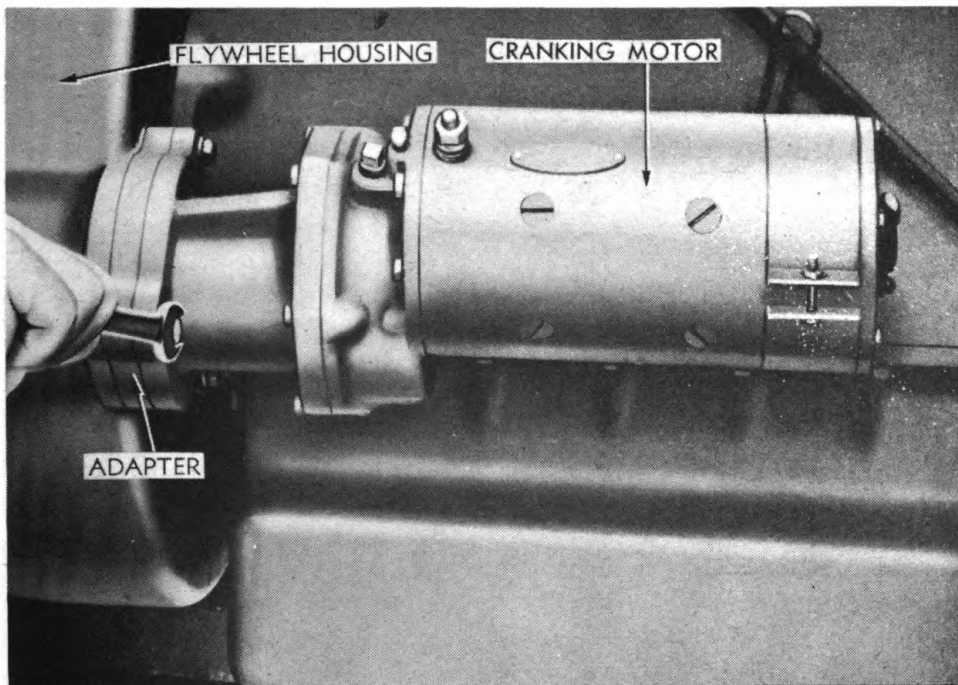

Figure 11 — Removing Cranking Motor
h. Remove Cranking Motor. Remove the three cap screws and lock washers holding cranking motor to flywheel housing (fig. 11) and remove cranking motor and spacer from housing.